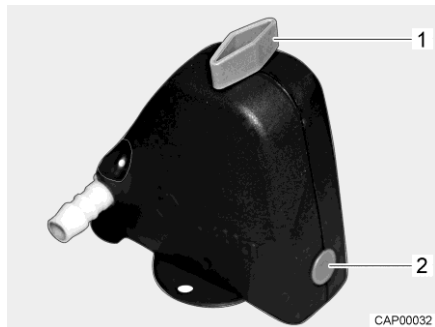
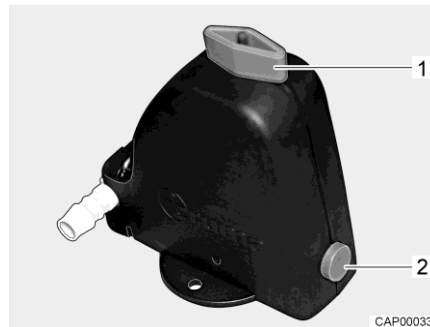

Fig. 92 Safety/drainage valve closed
Fig. 93 Safety/drainage valve open
- Open the safety/drainage valve (Fig. 92). To do this, turn the knob (Fig. 92,1) parallel to the safety/drainage valve. The push button (Fig. 92,2) jumps out. The open safety/drainage valve is shown in Fig. 93.